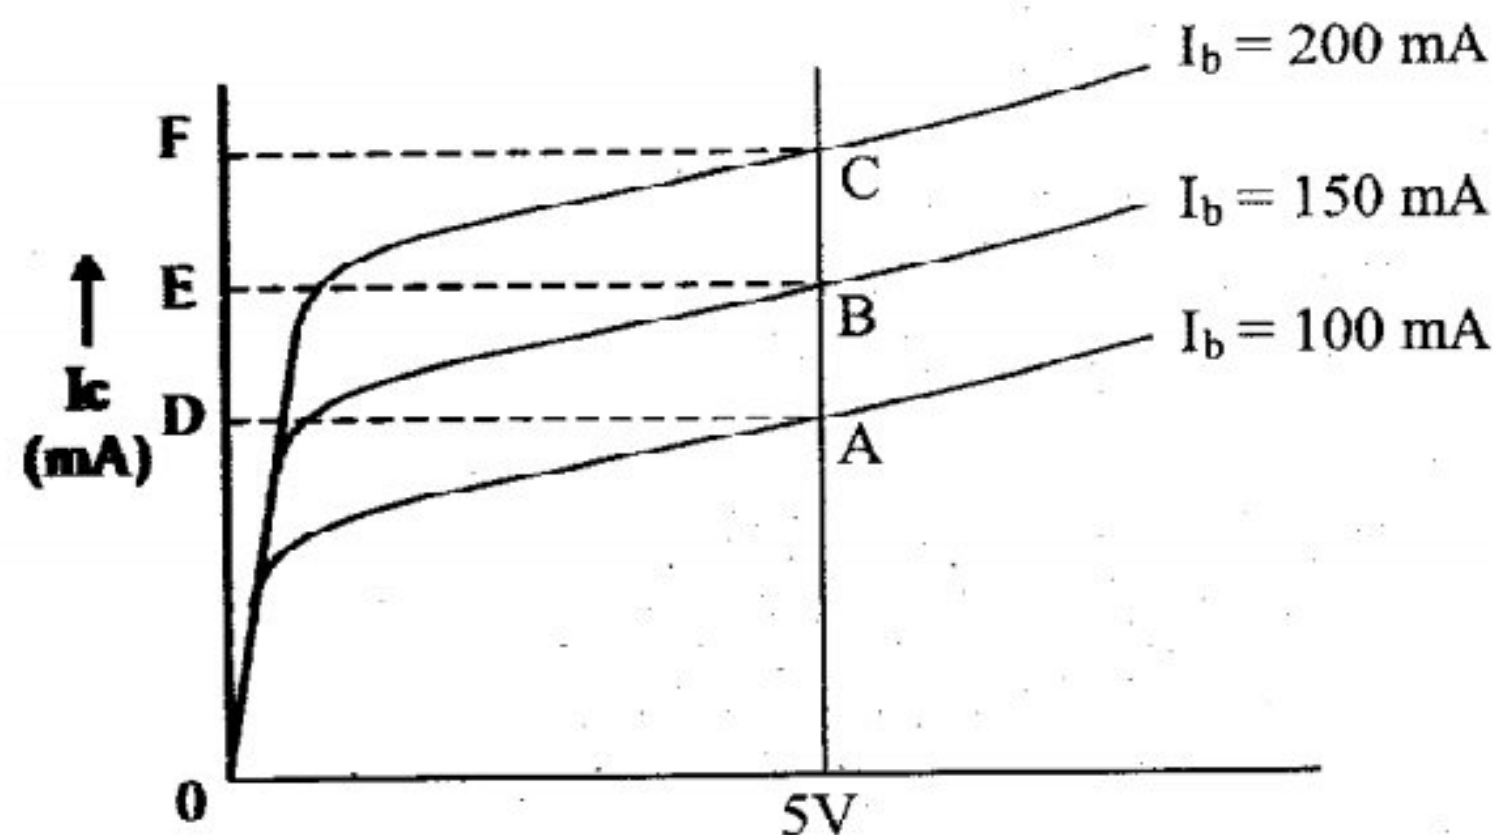

Fig. 15.7
- (iii) Plot graphs from the data recorded in above three tables. The graphs obtained and shown in fig. 15.7. These are the characteristics of CL100 in CE mode. At low V_{ce} a fraction of charge carriers injected into the base region are collected by the collector and hence I_c is small. As V_{ce} increases more and more carries get collected, hence I_c rises rapidly. When all the carriers have been collected I_c becomes nearly constant. This explains the shape of the characteristics curves.
- (iv) To find the current amplification factor β of the transistor draw a vertical line perpendicular to V_{ce} axis at say -5V point. Let it cut the three curves at A, B and C as shown in Fig. 15.7. Now from points A,B and C draw perpendiculars on the I_c axis. Let these meet the axis at points D, E and F as shown in Fig. 15.7.
- iv) From your experimental curves (Fig. 15.7) find out how will β change with V_{ce} .